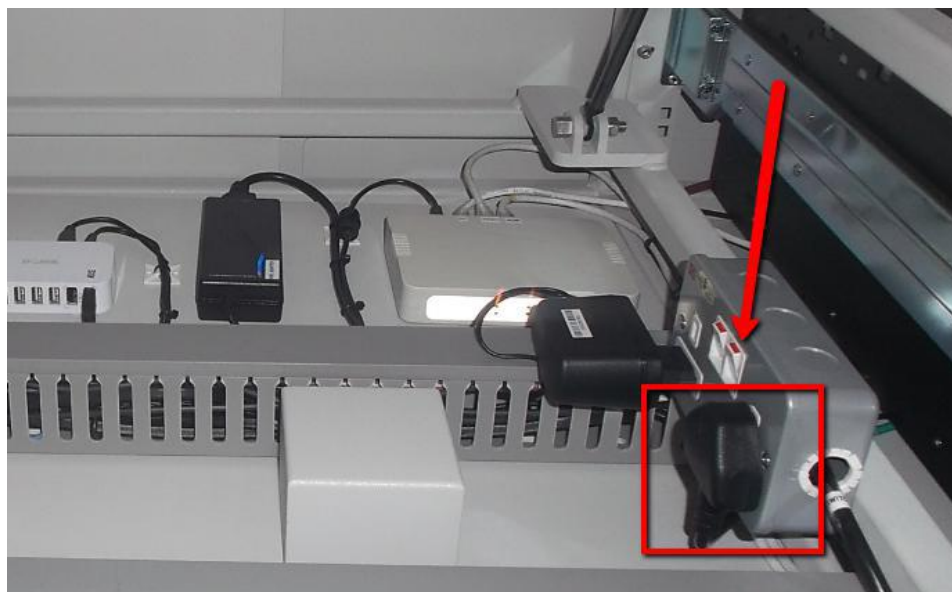

Figure 11 3PIN PLUG POWER SWITCH
10. Turn on 3 PIN PLUG Switch as below Figure 11.